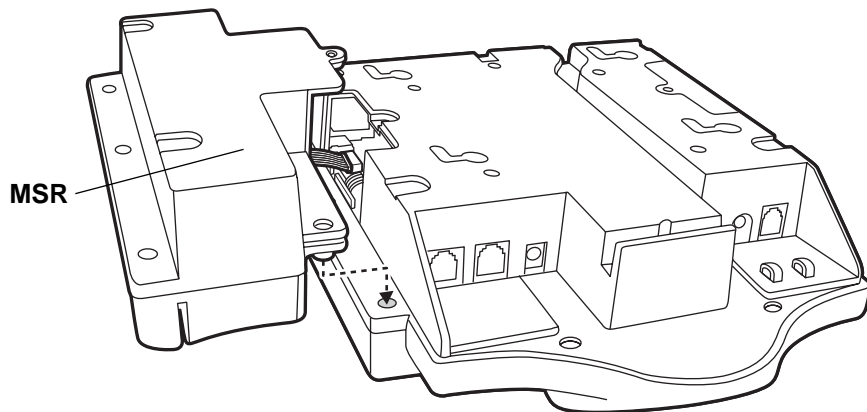

Figure 2-12 Positioning the MSR on the MK1200
4. Align the mounting holes on the MSR with the MSR mounting holes on the MK1200 as shown in Figure 2-12.